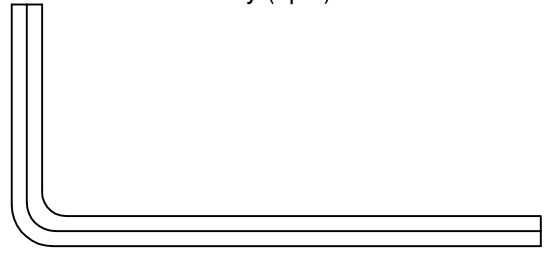

FIG.6
Place the vertical panel into its appropriate position on the Fixed shelf as shown in figure 6. Insert the 2 Allen bolts 1 1/4" (30 mm) (L) and 2 spring washers (W) first through the threaded inserts in the stationary shelf, then through the vertical panel as shown in figure 7. Tighten with Allen Key (R).